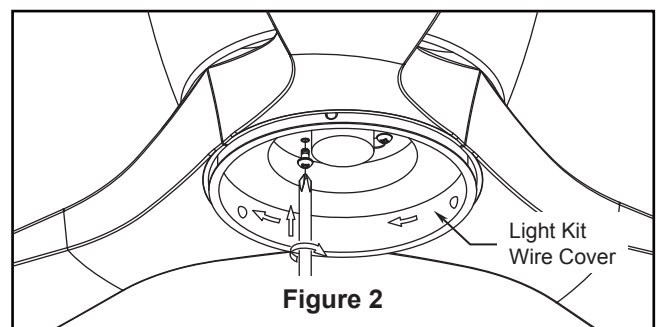

Figure 2
2. Assemble the light kit wire cover to the support bracket of the motor assembly using the two key slots in the light kit wire cover. Replace the previously removed screw and securely tighten all three screws. (Figure 2)